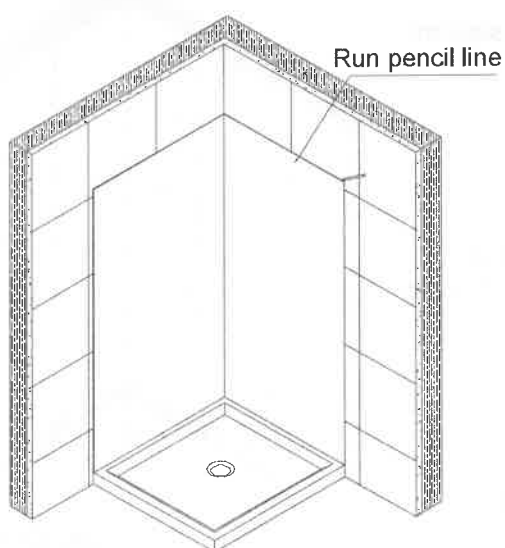

Fig4
3. Once satisfied the wall liner is correctly and fully into position (pushed tightly into corner) run a pencil line around the perimeter of the lining. Fig4. Within the pencil line where the acrylic wall will be attached ensure the Gib is screwed or nailed at 200mm centers.